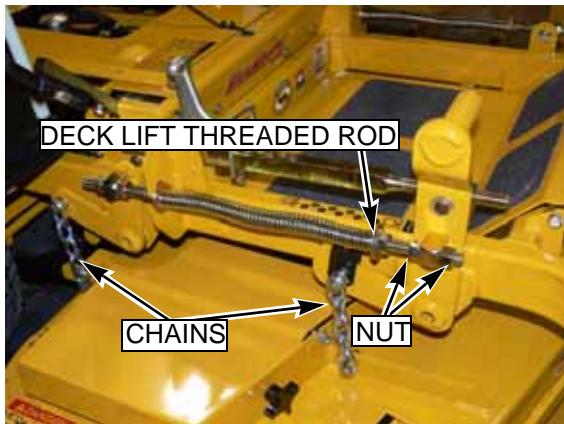
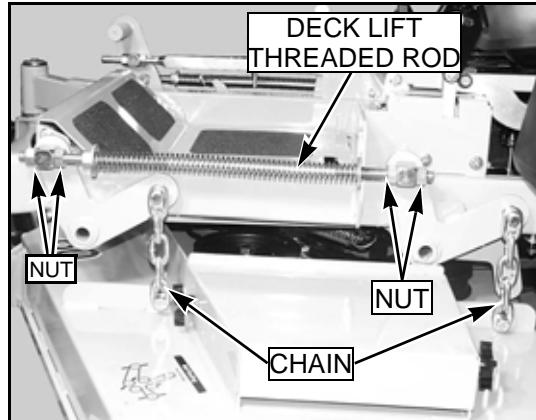
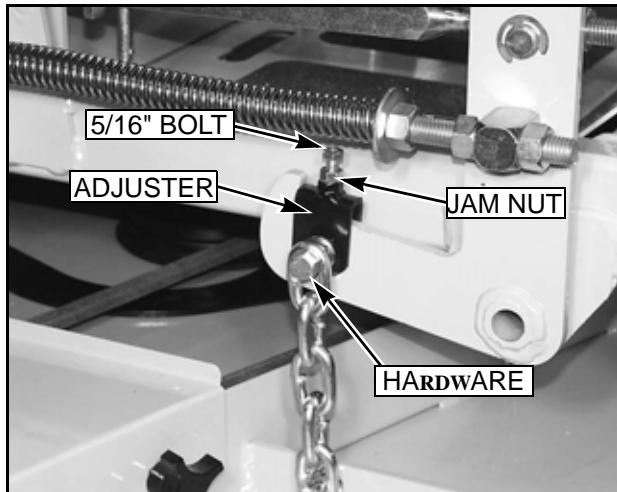

FIG. 63
FIG. 64
FIG. 65
6. Loosen all nuts on the deck lift threaded rods, and the hardware on the adjuster (on the right front), until all the deck lift chains are loose, and the deck is sitting tightly on all four blocks (FIG. 63, FIG. 64 & FIG. 65).
14. Loosen the 5/16" jam nut on the adjuster lift chain (FIG. 65), and back the adjuster bolt out to allow the adjuster to move up and down freely.
17. Tighten the adjuster bolt jam nut to prevent the adjuster bolt from moving (FIG. 65).
20. Make sure that there is still slack in the chain. If not, loosen the two nuts on the block holding the threaded rod until there is slack in the deck lift chain (FIG. 65).
- 24. Make sure that there is still slack in the chain. If not, loosen the two nuts on the block holding the threaded rod until there is slack in the deck lift chain (FIG. 63).